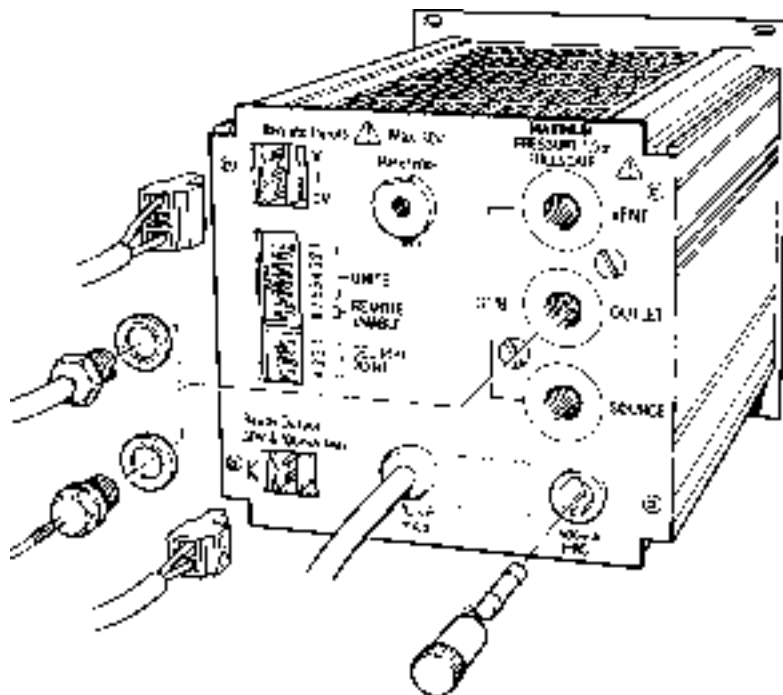

Figure 2-1 Rear Panel Connections
2.2 Source/Outlet Connections (Figure 2-1)
The common front and rear pressure outlet ports should have a blanking plug fitted when not in use. All other the connections to the instrument are on the rear panel. Figure 2-1 shows the rear panel pressure and electrical connections.
2.3 Electrical Connections (Figure 2-1)
A.C. power is supplied to the instrument through a captive power supply cable. Figure 2-1 shows the cable and the related power supply fuse.
2.4.1 Procedure (Figure 2-1)